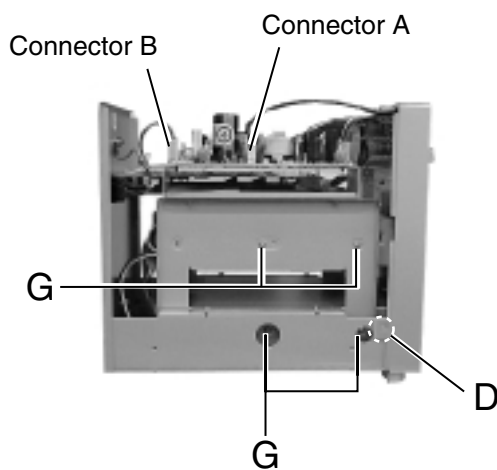
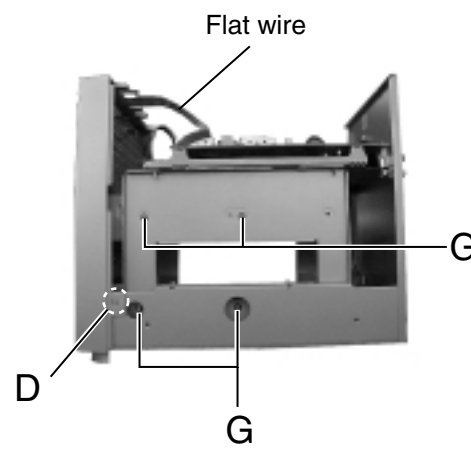

Fig. 4
Fig. 5
Fig. 4 shows the structure of a CD-R disc.
[Fig. 4]
Fig. 5 shows the structure of a CD-RW disc.
[Fig. 5]
3. Unplug the connector A from the power supply board (Fig. 4) and the flat wire from the control board (Fig. 5).
4. Disengage the 2 claws D from the front panel and remove the front panel. (Figs. 4 and 5)
### ■ Removing the rear panel (Figs. 4 & 6)
2. Unplug connector B from the power supply board (Fig. 4).
**■ Removing the CD-ROM and CD-R/RW drives (Figs. 4, 5 and 7)**
4. Remove a total of 8 screws retaining the drives, from the side panels. (Figs. 4 and 5)